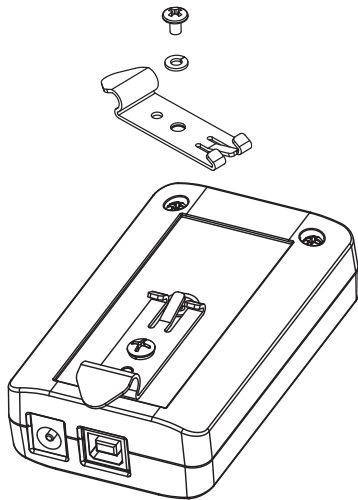

Figure 1
1. Use the **Guide Peg** at the bottom of the **USB 2.0 Galvanic Isolator** to align the **DIN Rail Mounting Kit** into its correct position. Use a **Phillips Head Screwdriver** to install the self-tapping screw and secure the **DIN Rail Mounting Kit**. (Figure 1)